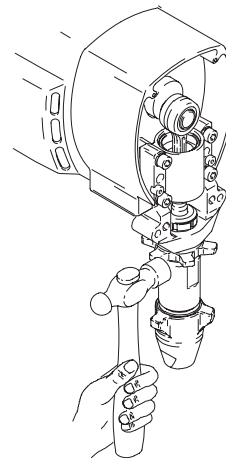

Fig. 27
- Fig. 27. Screw jam nut down onto pump until stops. Screw pump up into bearing housing until it is stopped by jam nut. Back off pump and jam nut to align pump outlet to back. Tighten jam nut by hand, then tap 1/8 to 1/4 turn with a 20 oz (maximum) hammer to approximately 75 ± 5 ft-lb (102 N·m).